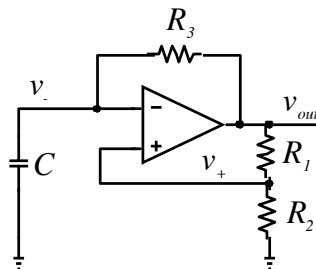

Figure 1.15: Circuit schematic of the astable multivibrator.
1. Build the circuit of Figure 1.15 using $R_1 = R_2 = R_3 = 100 \text{ k}\Omega$ and $C = 10 \text{ nF}$.